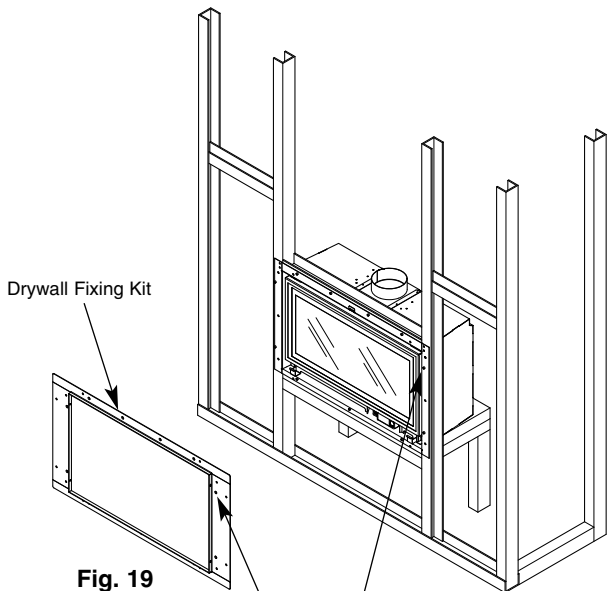

Fig. 19
9. Locate the drywall fixing kit onto the fire box and secure with the countersunk screws provided into the fixing bushes (Fig. 19 & 20).